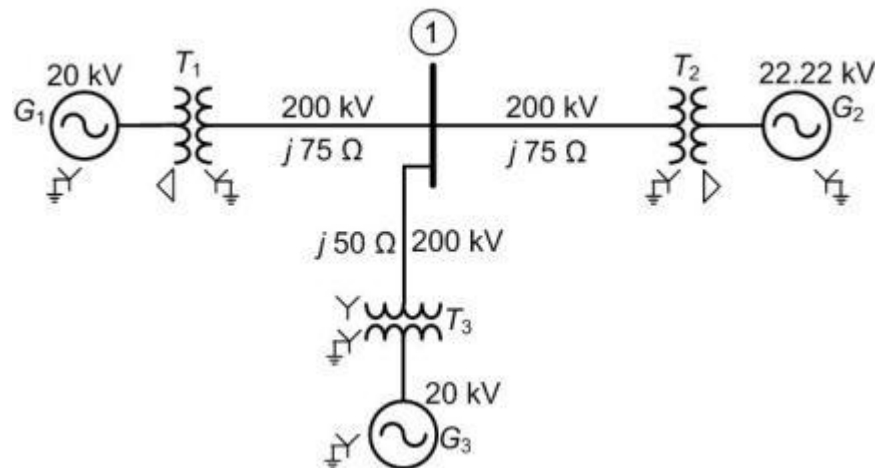

Fig. 2
4. Consider the 50 Hz power system the single-line diagram of which is shown in Fig. 2. 14M